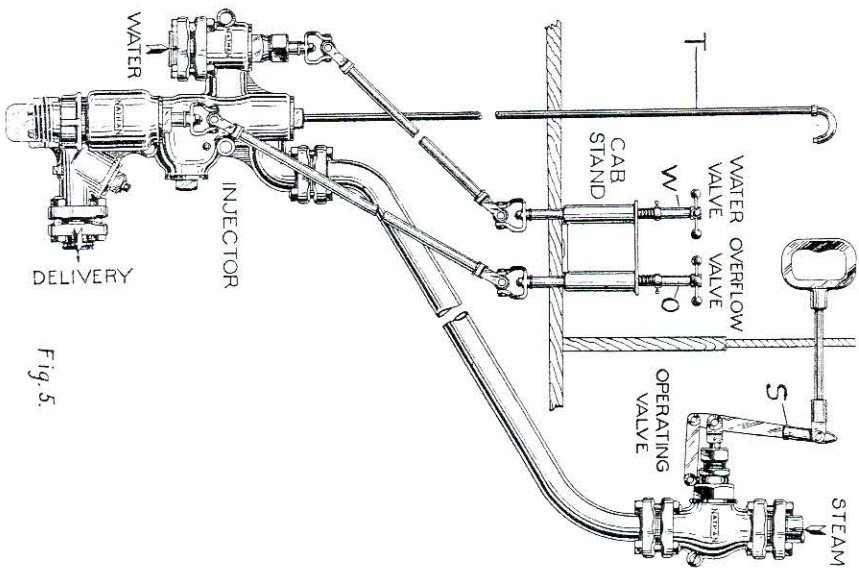

Fig. 5.
45. Method of operating 1918 Special "A" and "B" non-lifting injectors as shown in Figure 5: